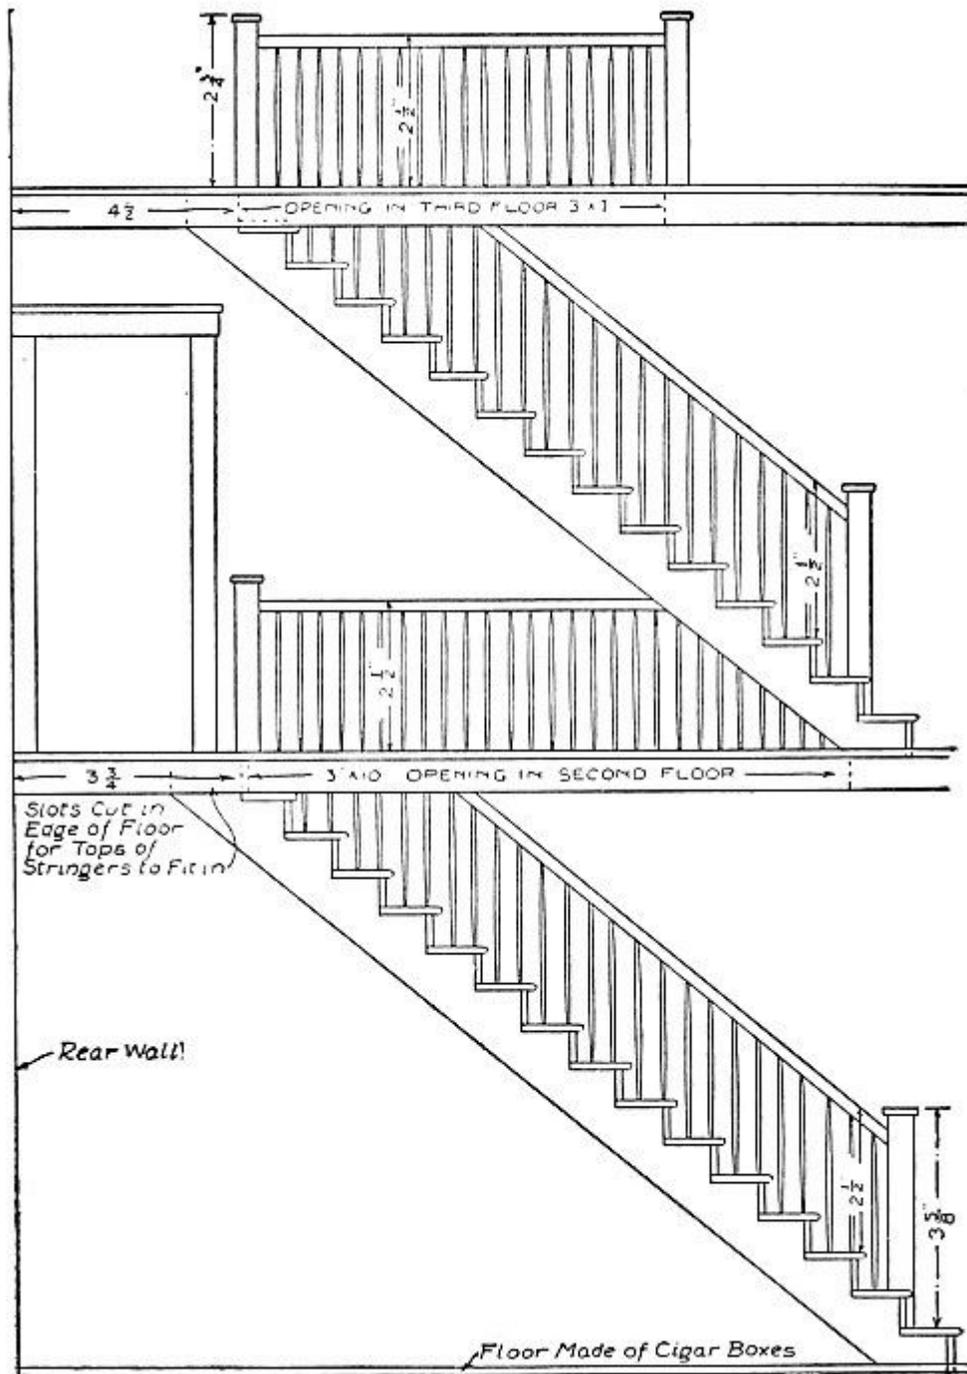

FIG. 71.—Details of Inside Stairs.
**The Stairs** from first to second floors (Fig. 71) should now be constructed as described later under the head of "Stairways," as it would be difficult to set them in place after the walls are up.
**The Balusters.**—As brads are likely to split the thin cigar-box wood, the staircases should be put together with glue. First fasten the stringers in place, cutting a slot in the edge of the floors for the tops to set in, as shown in Fig. 71. Then glue on the treads and risers, and cut the bottom of the newel-post to fit over the second step. The lower end of the toothpick balusters are set into slits cut with a knife in the treads, and the upper ends fit in the groove cut in the hand-rail.
**The Balustrades** around the stair openings on the second and third floors are made in the same way (see Fig. 71). As finished floors are to be laid in the halls, as described later, it will be well at this point to fasten a strip from a cigar-box around the stair openings,